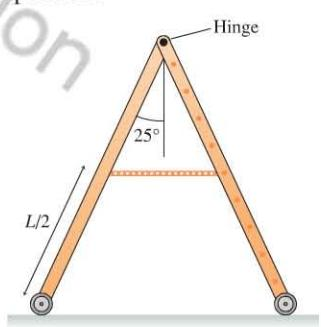

FIGURE P8.42
42. A library ladder of length L rolls on wheels as shown in Figure P8.42. The two legs of the ladder freely pivot at the hinge at the top. The legs are kept from splaying apart by a lightweight chain that is attached halfway up the ladder. If the ladder weighs 200 N, and the angle between each leg and the vertical is 25° , what is the tension in the chain?